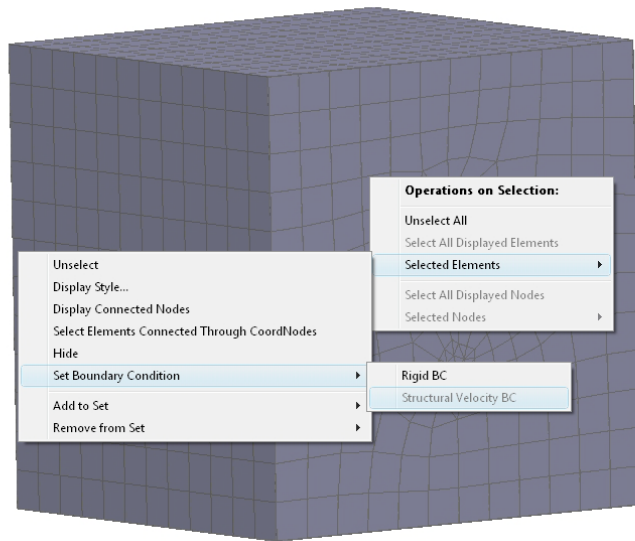

Figure A.42 Apply boundary conditions through selected elements.
- Again right-click on the mesh while holding down the *shift-key* and select: **Selected Elements** → **Set Boundary Condition** → **Structure Velocity BC** (as shown in Figure A.42). If the boundary